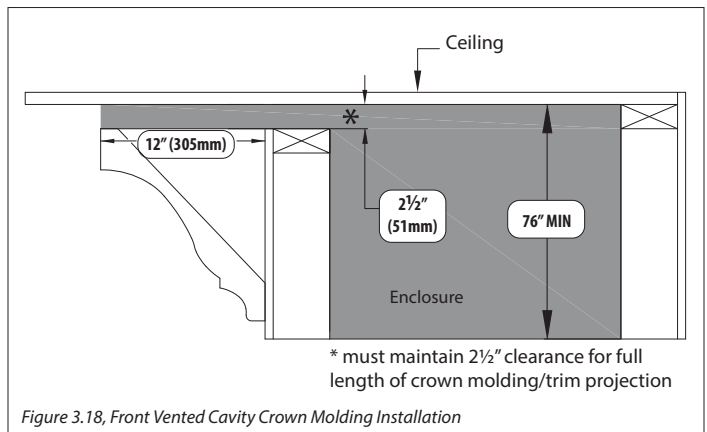

Figure 3.18, Front Vented Cavity Crown Molding Installation
- Figure 3.18 shows the installation of crown molding or similar trim work that goes up to the edge of the air discharge opening. This molding or trim cannot decrease the minimum opening requirement.